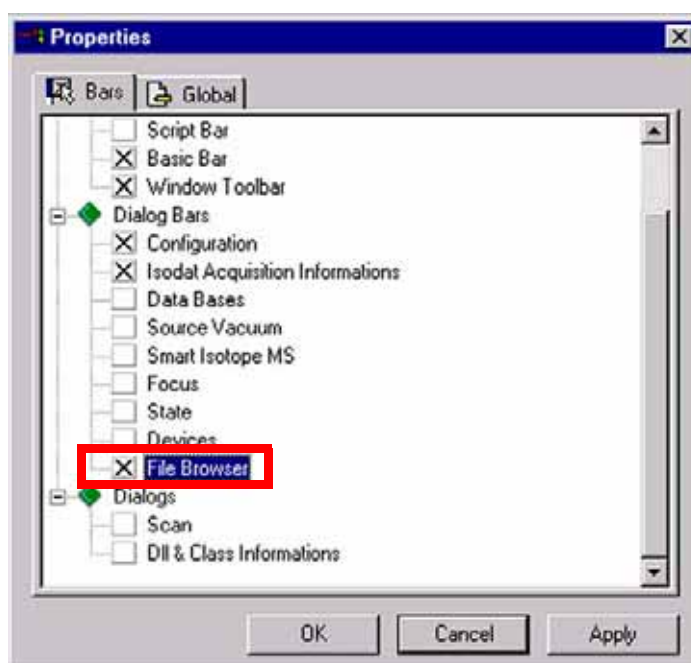

Figure 6-9. Activating the File Browser
2. Activate the File Browser check box. See Figure 6-9 on page 6-9.